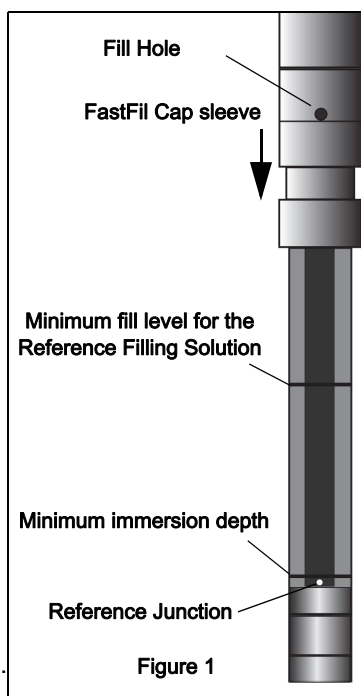

Figure 1
- Slide the sleeve of the electrode FastFill cap down to uncover the fill hole. (see fig. 1)